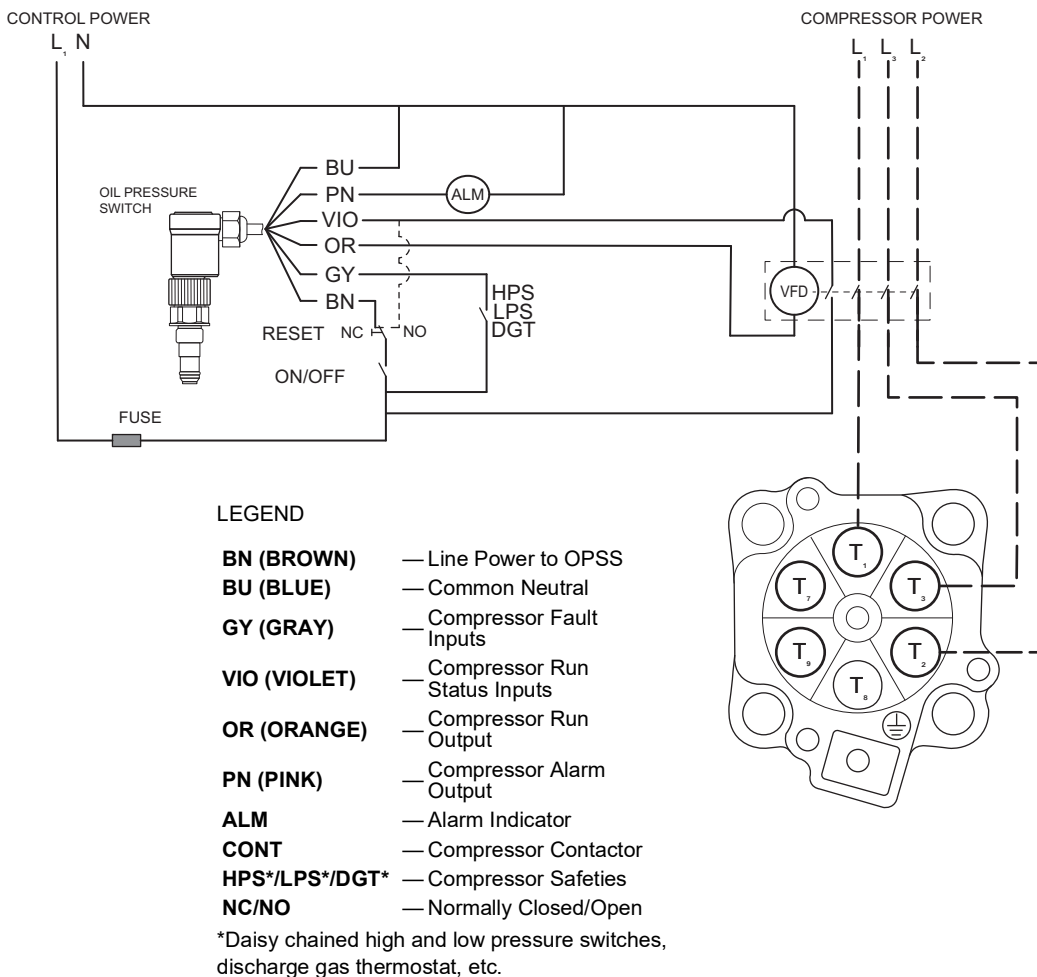

Fig. 3 — Electric Wiring for all 06M models in Variable Speed
See Fig. 3.
3. Make motor power connections from the variable speed drive to the terminal plate as shown in Fig. 3. See “Terminal Plate Wiring” on page 6 section for connection details.